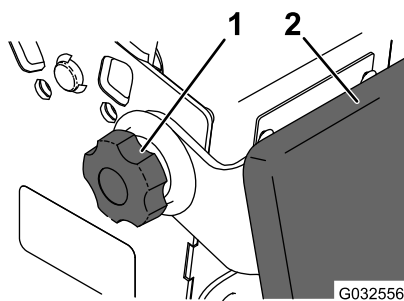

Figure 31
2. Loosen the twist knobs on each side of the machine (Figure 31).